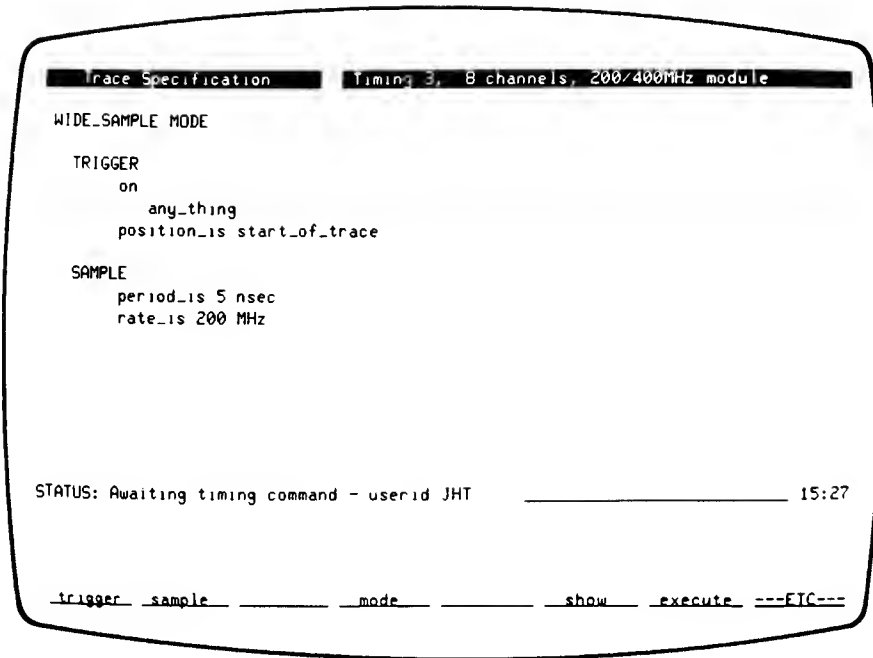

Figure 3-2. Trace Specification Display
1. The default trace specification will be on screen as shown in figure 3-2. Press the `---ETC---` softkey to see the other line of softkey labels available in this specification.
4. Return to the wide sample mode by pressing *mode*, *wide*, RETURN. Now press the *execute* softkey, and the RETURN key. This begins a trace under the default trace specification (figure 3-2).
7. Now that your labels are assigned, it is time to set up a trigger. Press the *show* and *tracespec* softkeys, then the RETURN key. The trace specification (see figure 3-2) will appear on the screen.